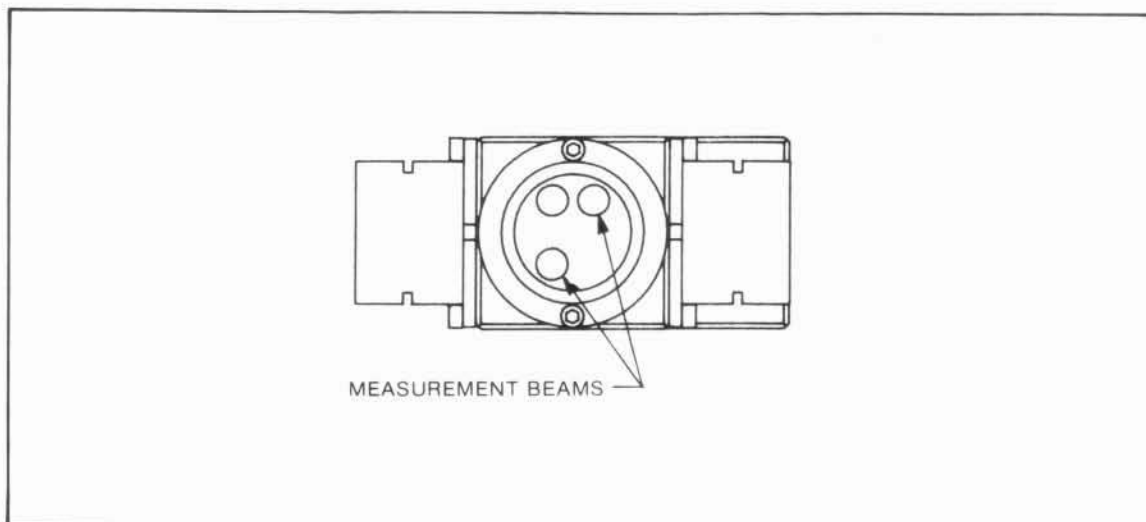

Figure 6-39. Differential Interferometer as Viewed from Plane Mirrors with Measurement Beams Aligned
- i. Remove the alignment aid. The laser beam should now exit the interferometer aperture in two diametrically opposite positions (measurement beams). (See Figure 6-39.)